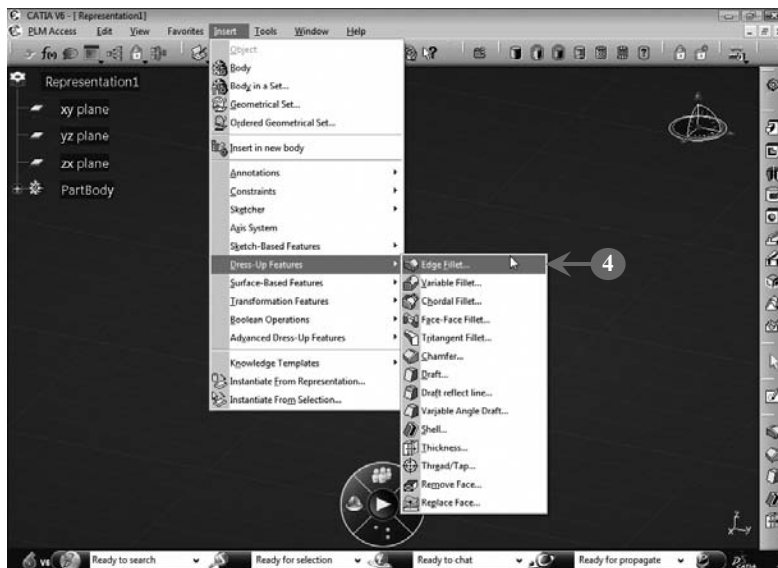

FIGURE 3.43
4. Select **Insert > Dress-Up Features > Edge Fillet** to select the edge fillet feature, as shown in **Figure 3.43**: